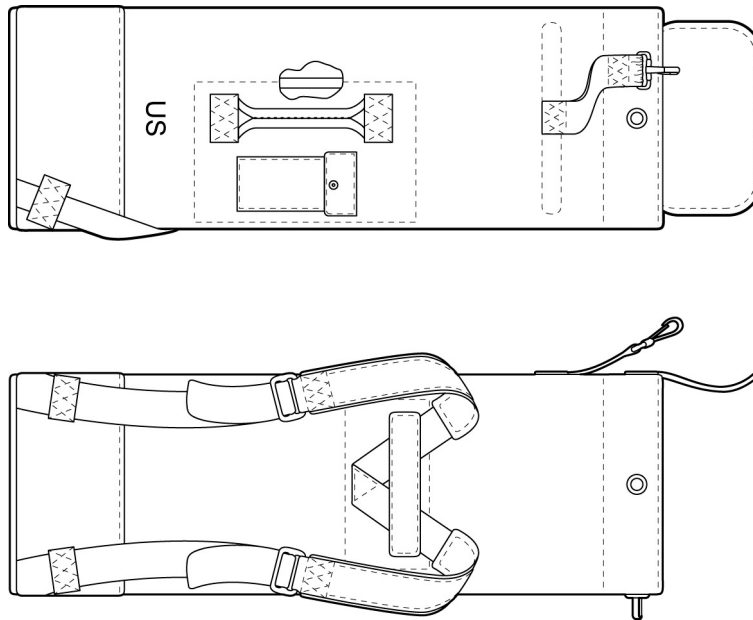

Figure 11. Duffel Bag.
**Duffel Bag.** The Duffel Bag (Figure 11) is fabricated from Olive Green 106 Nylon Duck and is provided with a handle and straps for either hand or over-the-shoulder carrying. The bag is provided with a pocket to accommodate shipping documents. Nylon webbing is used for fabrication of the straps.